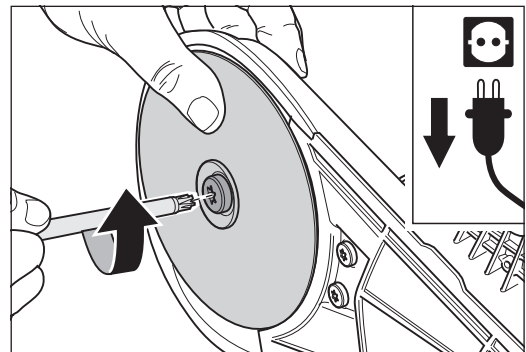

Fig. 16 Remove the screw with the universal spanner.
- 3 Use the universal spanner to remove the screw from the sanding plate (fig. 16).